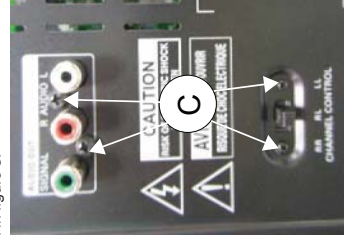

Figure 3
- 1) Loosen 4 screws "C" at the back panel as shown in figure 3.